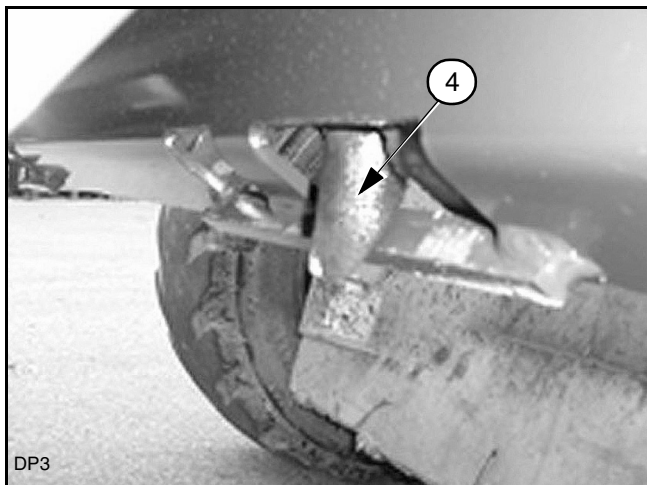

Figure 3.
Move the coupler pins to the engaged position. Hook up the auxiliary hydraulic hoses. Be sure they are routed to prevent any hose interference. Check the attach pins (4) to be sure they are fully engaged in the attach bracket as shown in Figure 3.